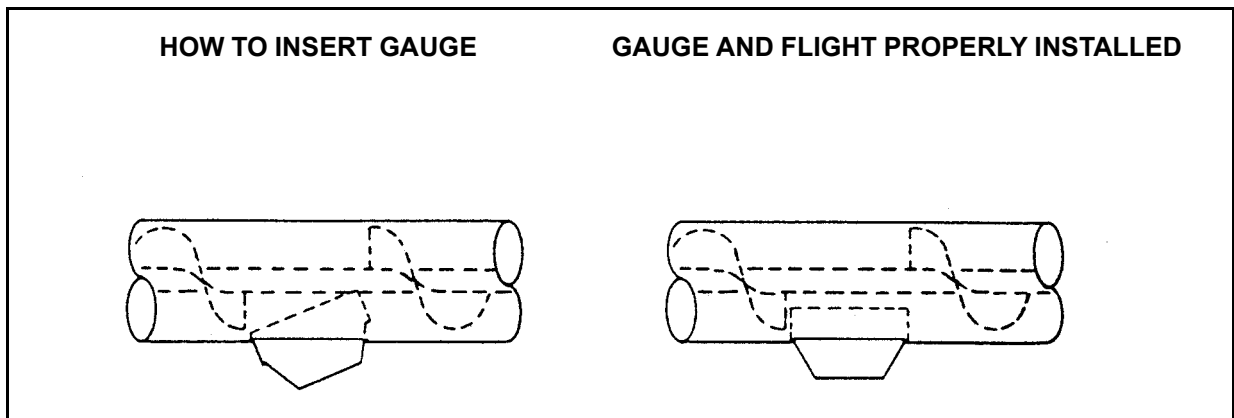

Figure 4J
6. Remount the pan and check all the clearances and alignments. Before installing the sensor, insert the clearance gauge into the cutout. (*See Figure 4J*).